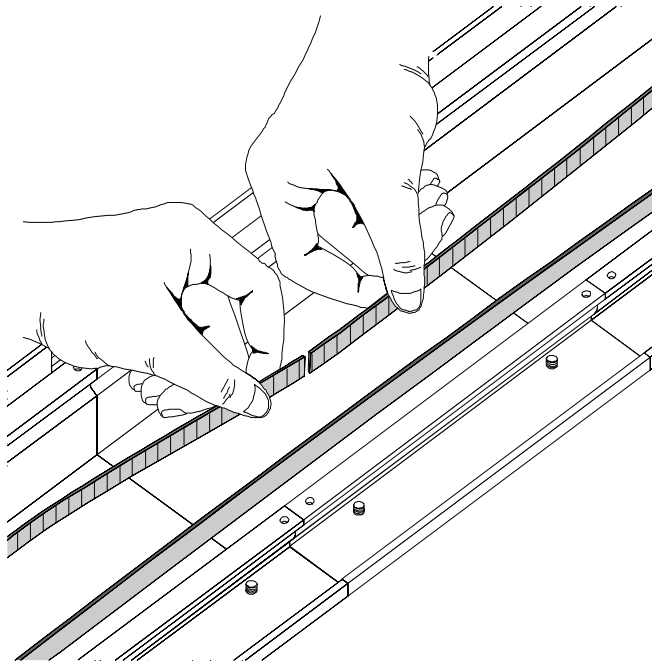

Figure 2-7 Checking Belt Length
8. Holding the ends of the belt as shown in Figure 2-7, the two ends should be touching or very slightly overlapping.